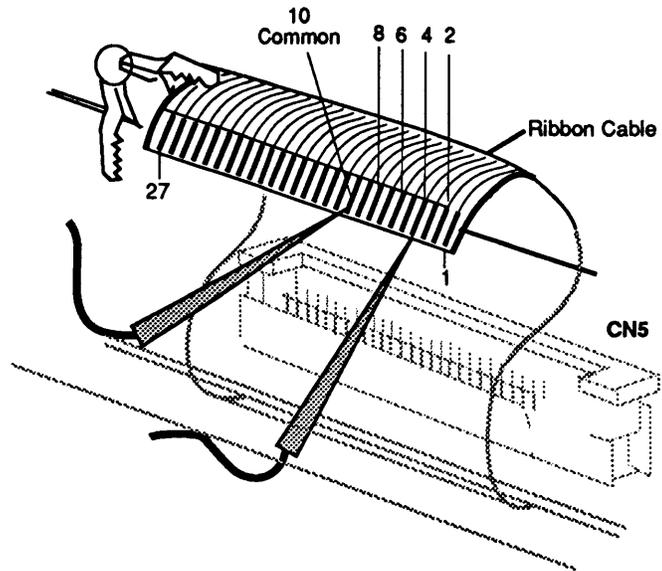

FIGURE 3-9
- c) As shown in **Figure 3-9**, put one probe on pin 10 (common) and measure the resistance on pins 2, 4, 6, and 8. The reading should be $120\Omega \pm 10\%$ on each pin. If the reading is different, then check both the motor and the cable.